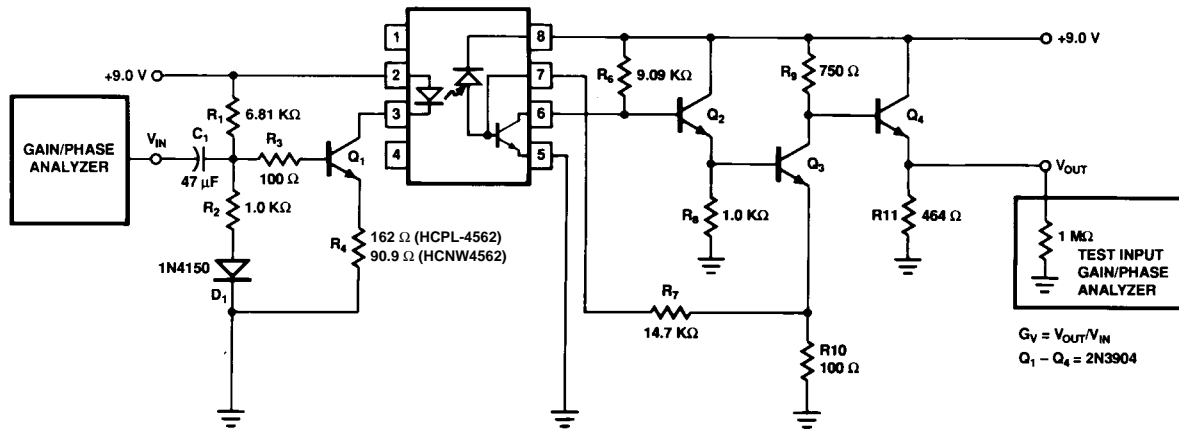

Figure 1. Gain and Bandwidth Test Circuit.
- When used in the circuit of Figure 1 or Figure 4; $G_V = V_{OUT}/V_{IN}$; $I_{FQ} = 6$ mA (HCPL-4562), $I_{FQ} = 10$ mA (HCNW4562).